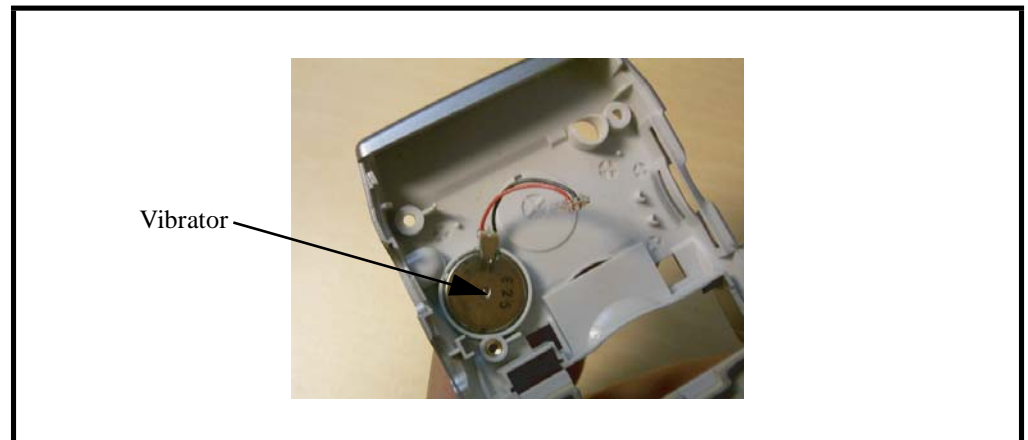

Figure 22. Removing the Vibrator
5. Remove the vibrator from the rear housing cover as shown in Figure 22.